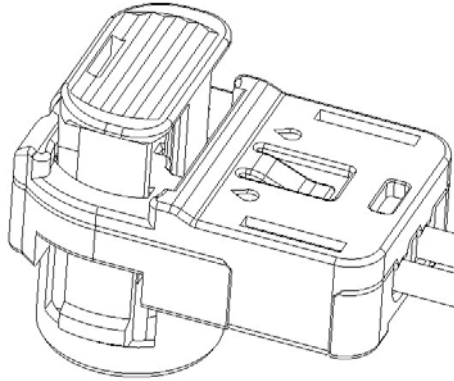

Fig. 19
(3) Check if the locking button is placed on the position like Fig. 19